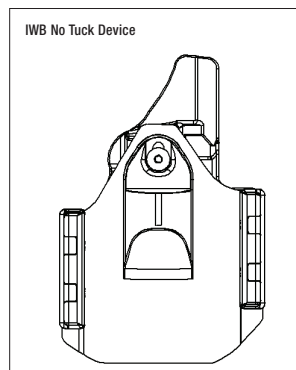
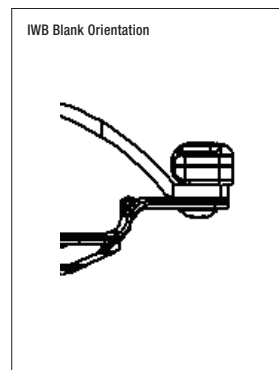

Figure 3
Figure 4
The Tuck Device enhances concealment by leveraging the wearer's belt tension and pants or shorts waistline to pull the holster in and closer to the body. As seen in Figure 3, this optional feature can be easily replaced with an IWB Blank (4) component, if desired, by removing the three Side Screws (5). Simply unscrew the three screws, swap out the Tuck Device and IWB Blank parts and reinstall the screws. Ensure the curved edge of the IWB Blank is orientated inward, towards the holster body as shown in Figure 4. Either the Tuck Device or IWB Blank needs to be installed to maintain a functional holster and IWB mounting style.